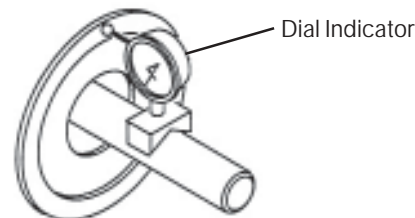

Figure 1
**Note:** Control perpendicularity between the shaft and housing mounting surface. Use a Dial Indicator for measurements. Perpendicularity should be less than 0.015 TIR (See Figure 1).